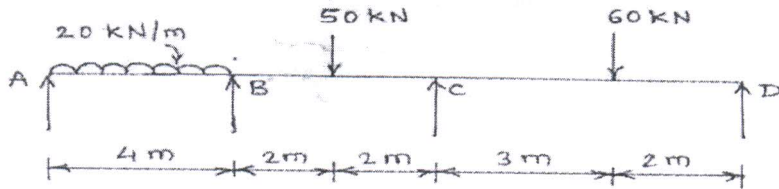

Figure 3
3. a) A continuous beam ABCD supported and loaded as shown in figure 3. Find moments and reactions at supports using theorem of three moments. Draw SFD and BMD.